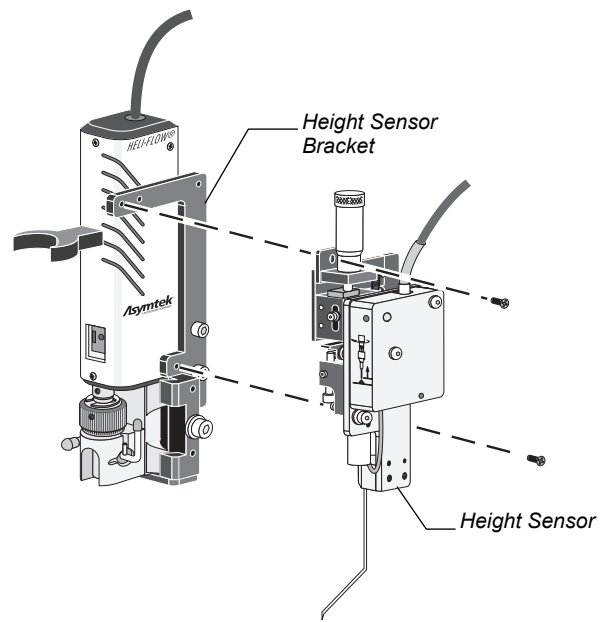

Figure 3-9 Attaching the Height Sensor (M-2000, X-1000 Systems)
7. Use a Phillips head screwdriver to attach the height sensor to the height sensor bracket (Figure 3-9).